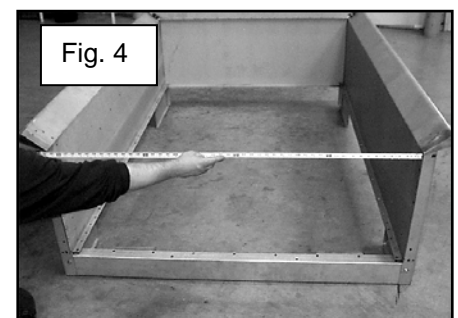

Fig. 4
5. Once these four pieces of the bed are assembled, you will need to make sure your bed is square. Measure the bed width at the top and bottom of straight part of bed sides to ensure that the bed sides are straight up and down and are 49" apart. See figure 4. Tighten the rear cross sill bolts. Be careful not to over-tighten the bolts going through the rear cross sill and stake pocket.